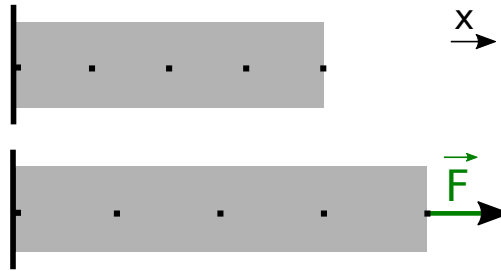

Figure 1: Longitudinal deformation of a rectangular bar
- a) We consider the bar in figure 1 before and after applying a force in the longitudinal axis. Use a ruler to measure the distances on the figure and answer the following questions.